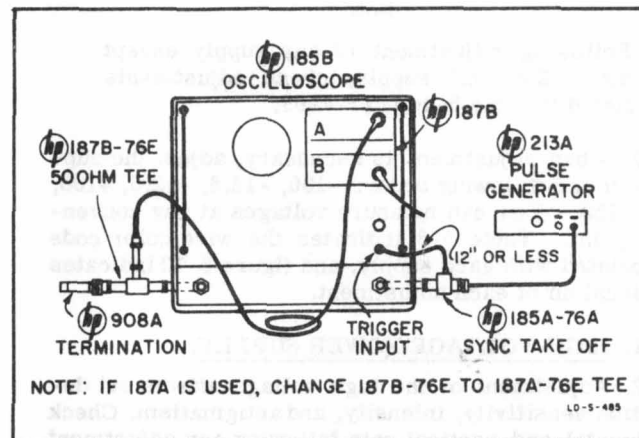

Figure 5-4. Minimum Delay Measurements
a. Connect equipment as shown in figure 5-4.